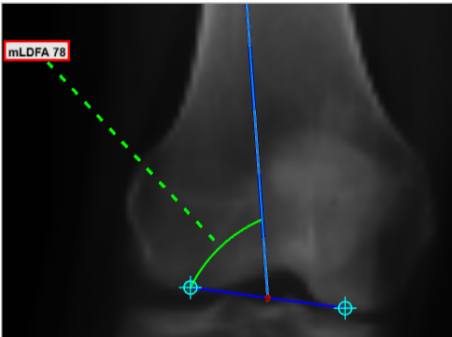

Figure 77
2. The distal femoral markers are placed on the convexity of the medial and lateral condyles. **(Figure 77)**